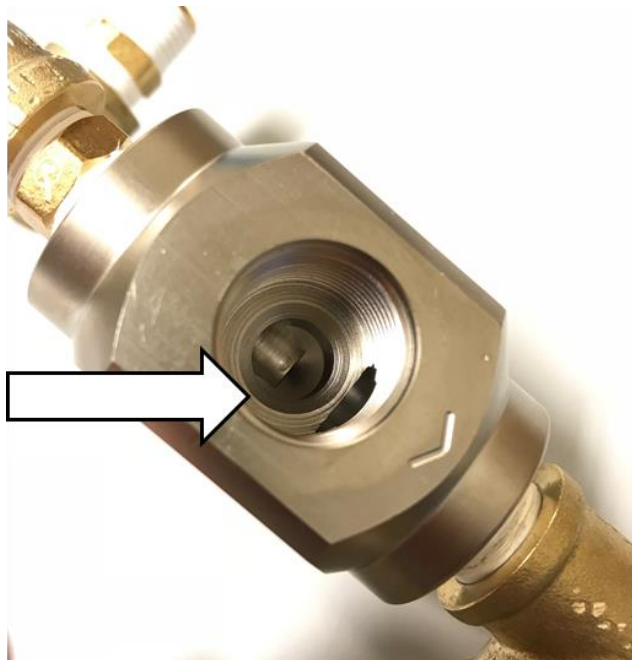

Fig. 2
5. Clean and clear off inner threading, port and edge using standard wipe/towel. (**Fig. 2**)